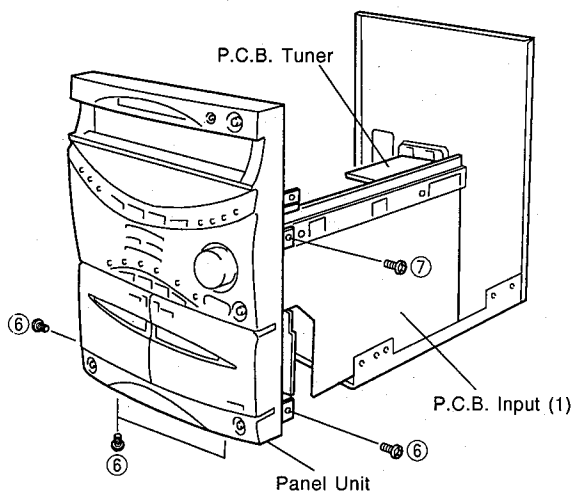

Fig. 6
- Remove 4 screws (⑥) and then remove the Panel Unit (with the Input P.C.B / Tuner P.C.B. attached) in Fig. 6.
- If necessary, remove a screw (⑦) and then remove the Input P.C.B / Tuner P.C.B. in Fig. 6.
4. Check and Part Replacement of Main P.C.B. (1)
- Install the Input P.C.B / Tuner P.C.B. to the Panel Unit in advance. (Fix them with a screw (⑦) in Fig. 6.)